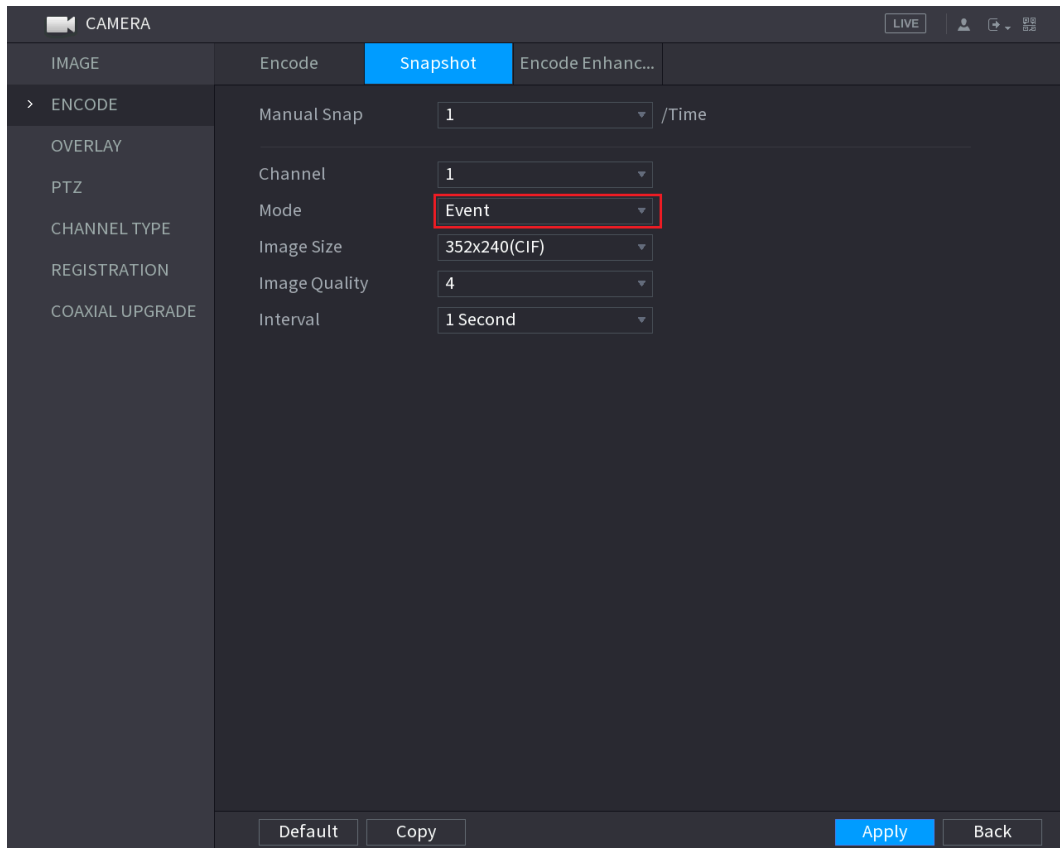

Figure 5-97
Step 2 In the **Mode** list, select **Event**, and then configure other parameters. See Figure 5-97.